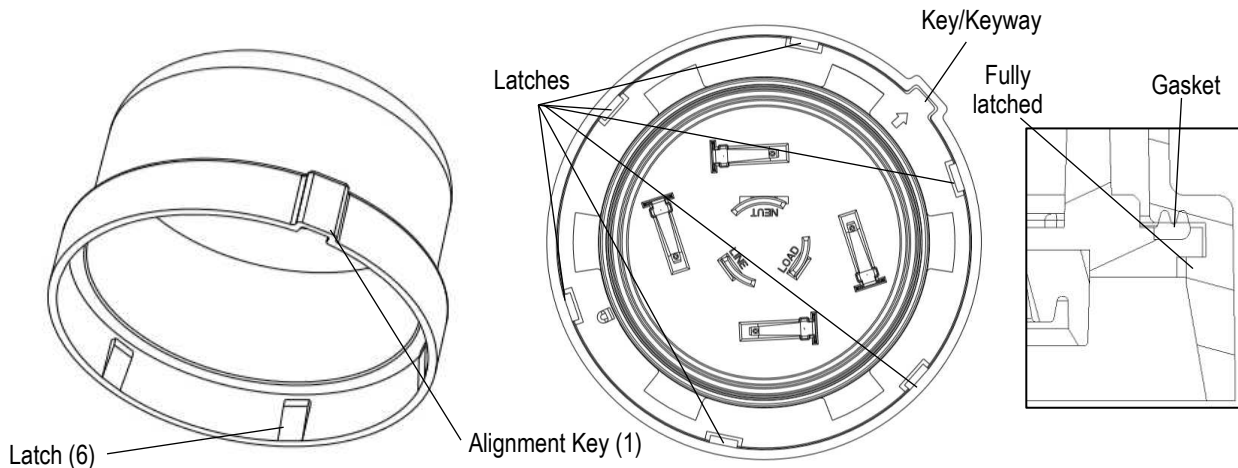

Figure 3a
- A. Place the cover onto the base, ensuring the cover key and base keyway are aligned. The cover has a protruded key which must be properly aligned with a keyway slot on the perimeter of the base. Reference figure 3a.